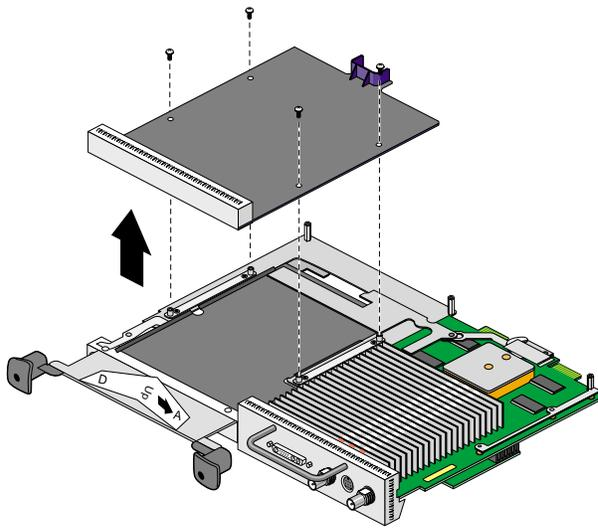

Figure 5-15 Removing the Blank Panel
- Grasp the blank panel or option board on the front and on the side of the board with no connectors and lift, as shown in Figure 5-15.
2. Using the supplied Phillips screwdriver, remove the screws from the option board or blank panel currently occupying the desired slot, then remove the board or panel (see Figure 5-15).